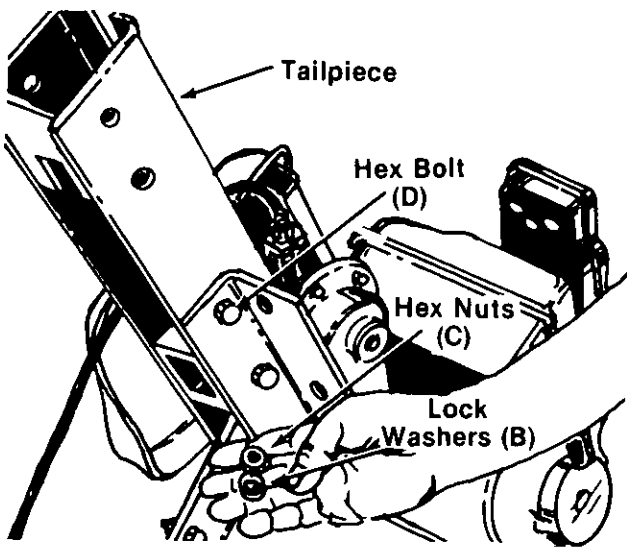

FIGURE 4.
- Secure the tailpiece to the rear frame rails with two hex bolts (D), lock washers (B) and hex nutx (C). See figure 4. Tighten all four hex bolts and nuts securely. Two 1/2" wrenches are required.